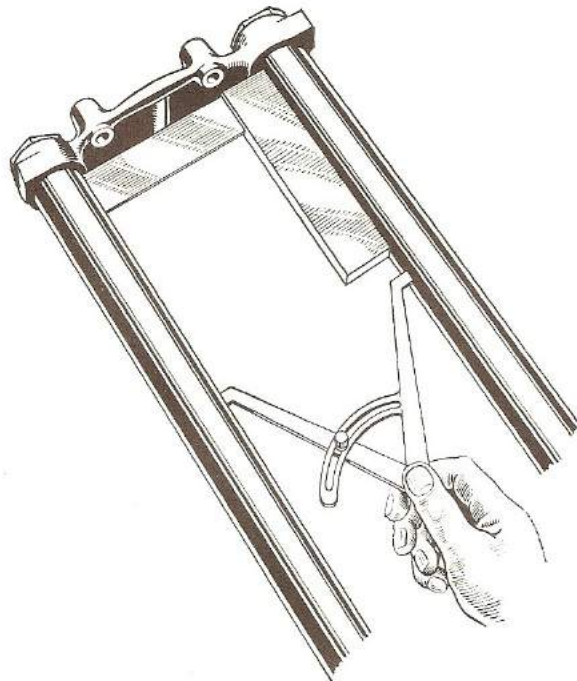

Fig. G3. Checking the top lug for alignment
- (1) Check the stanchions for truth by rolling them slowly on a flat checking table. A bent stanchion may be realigned if the bow does not exceed $\frac{5}{32}$ in. maximum. To realign the stanchion, a hand press is required. Place the stanchion on two swage "V" blocks at either end and apply pressure to the raised portion of the stanchions. By means of alternately pressing in this way and checking the stanchion on a flat table the amount of bow can be reduced until it is finally removed.
- (2) Inspect the top lug by fitting both stanchions (if true) with the cap nuts tightened in position as shown in Fig. G3. Check that the stanchions are parallel to each other in both planes by laying the assembly on a checking table and taking caliper readings as shown. Using a set square, check that the stanchions are at right angles to the top lug.